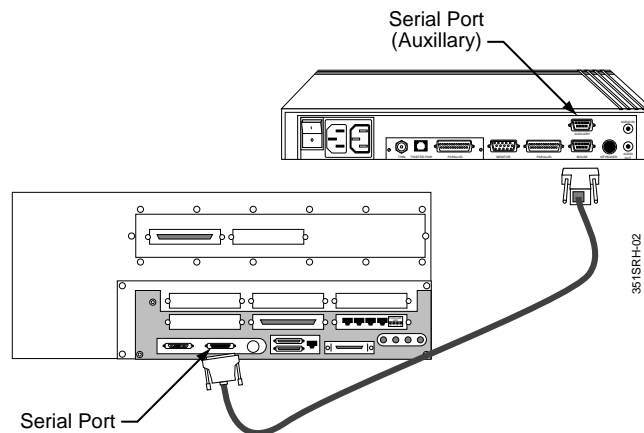
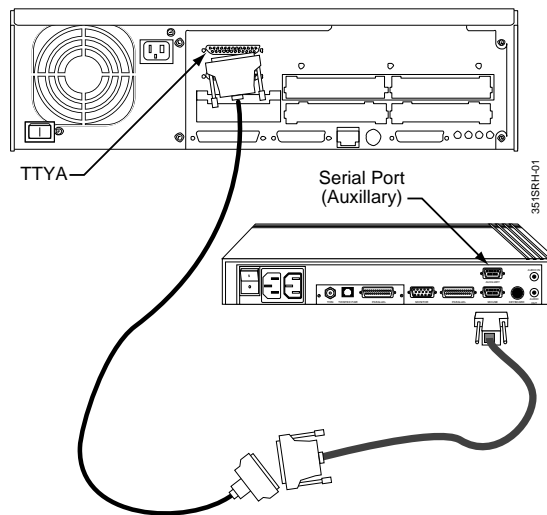

Figure 2-2: Connecting the NCD X-Terminal to the OMC TTYA/B Port—Themis Systems
Figure 2-3: Connecting the NCD X-terminal to the OMC console Port—Ultra-Based Systems
1. Connect a serial cable from the NCD x-terminal to the OMC console port ttya (see Figure 2-2 and Figure 2-3).